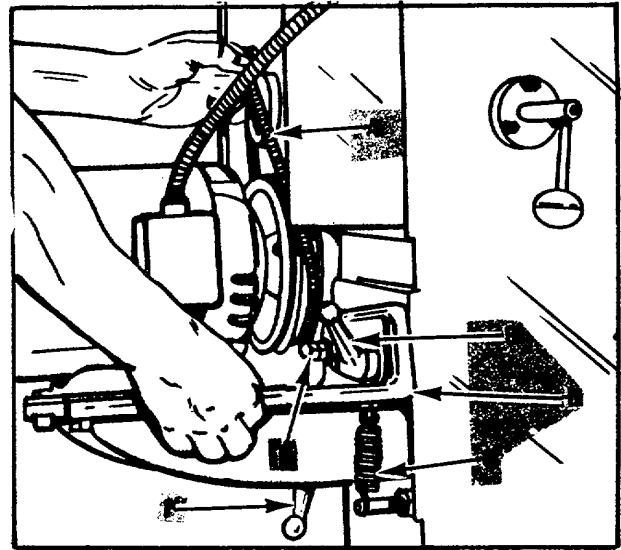

Fig. 12.
To increase tension on the motor to countershaft belt (A) Fig. 12, the motor must be shifted down. This may be done as follows:
1. Loosen the motor plate clamping levers (B) and (F) Fig. 12.
2. Let the belt tension spring (C) Fig. 12 supply the correct tension on the belt or push down the motor mounting plate (D) until the correct tension is obtained, and lock the motor plate clamping levers. The correct tension for the belt from the motor to the countershaft is $5/64$ " deflection with five pounds thumb pressure in center of span.
1. Remove the belt guard and the motor to countershaft belt (A) Fig. 12.
2. Disconnect the belt tension spring (C) Fig. 12. Remove nut (E) and two hand levers (B) and (F) that hold the motor mounting plate (D) Fig. 12, to the frame, and remove the motor mounting plate, motor, and motor pulley as a unit.